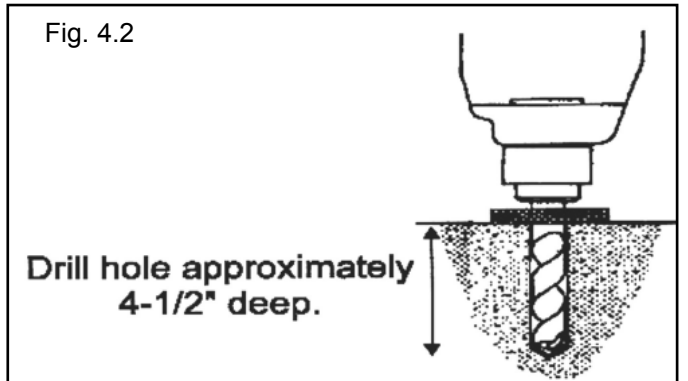

Fig. 4.2
2. Using the Base Plate on each Column as a guide, drill each anchor hole approximately 4-1/2" deep using a rotary hammer drill and 3/4" concrete bit.. (See Fig. 4.2)